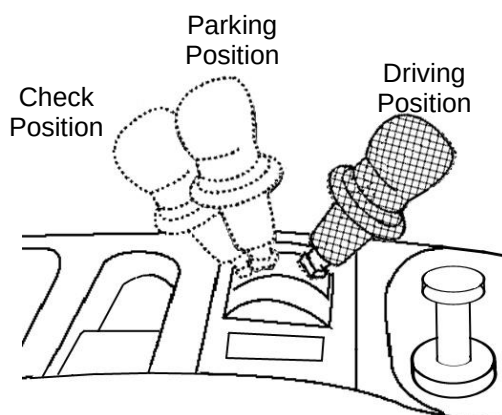

Figure 7.3
- Release the park brake (Figure 7.3) and gently depress the accelerator pedal (right pedal).